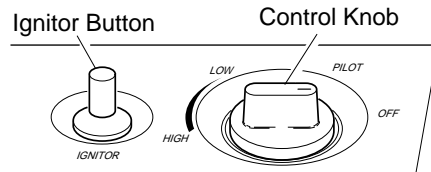

Figure 15 - Control Knob In The OFF Position
- Wait five (5) minutes to clear out any gas. Then smell for gas including near the floor. If you smell gas, **STOP!** Follow "B" in the safety information at left. If you don't smell gas, go to the next step.
- Press in control knob and turn counterclockwise to the PILOT position. Keep control knob pressed in for five (5) seconds (see Figure 15).